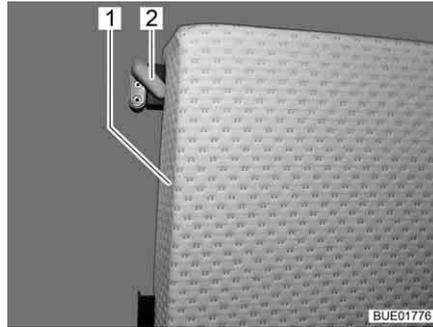

Fig. 139 Fixing additional cushion
- Turn the locking bar (Fig. 139,2) and take additional cushion (Fig. 139,1) out off the holder in the cabinet.